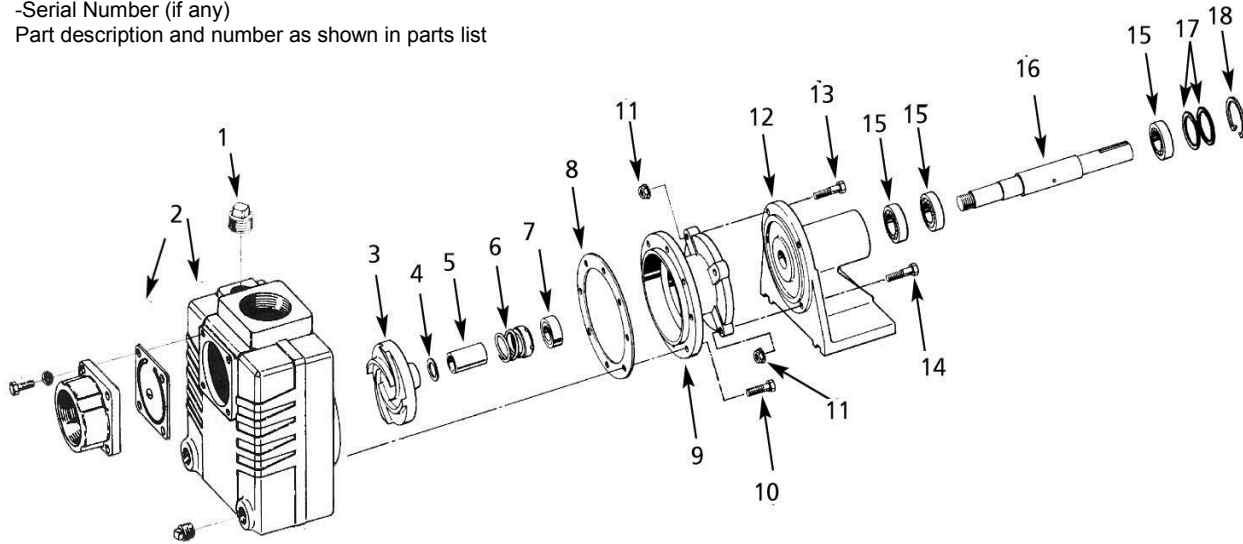

Figure 2 – Repair Parts Illustration
**NOTE:** Mechanical shaft seal consists of 2 faces, one stationary (seat) and other rotating (head). When removing seal refer to Figure 2, and carefully note position of seal faces and how they fit one to the other. Seat is installed in adapter (Ref. No. 9) and head (located around shaft) rides up against seat. The purpose of rubber components is to seal parts to housings and shaft and/or shaft sleeve. The purpose of stainless steel spring is to maintain pressure of carbon face to ceramic face.